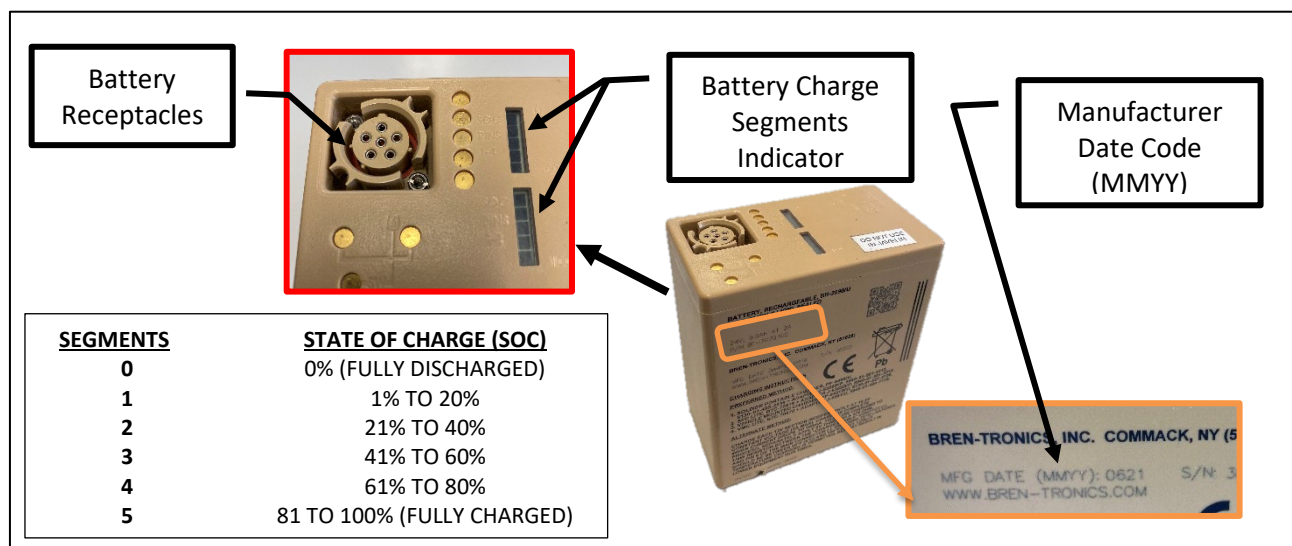

Figure 26: Inspect Battery Receptacle
- Ensure the battery contacts are clean as shown in Figure 26. Low pressure air or distilled water can be used to clean the battery contacts.
- Batteries should not be stored fully discharged for more than two (2) days without recharging. This can result in the inability to revive or recharge the batteries. Battery State of Charge can be visually verified using the indicator as shown in Figure 26.